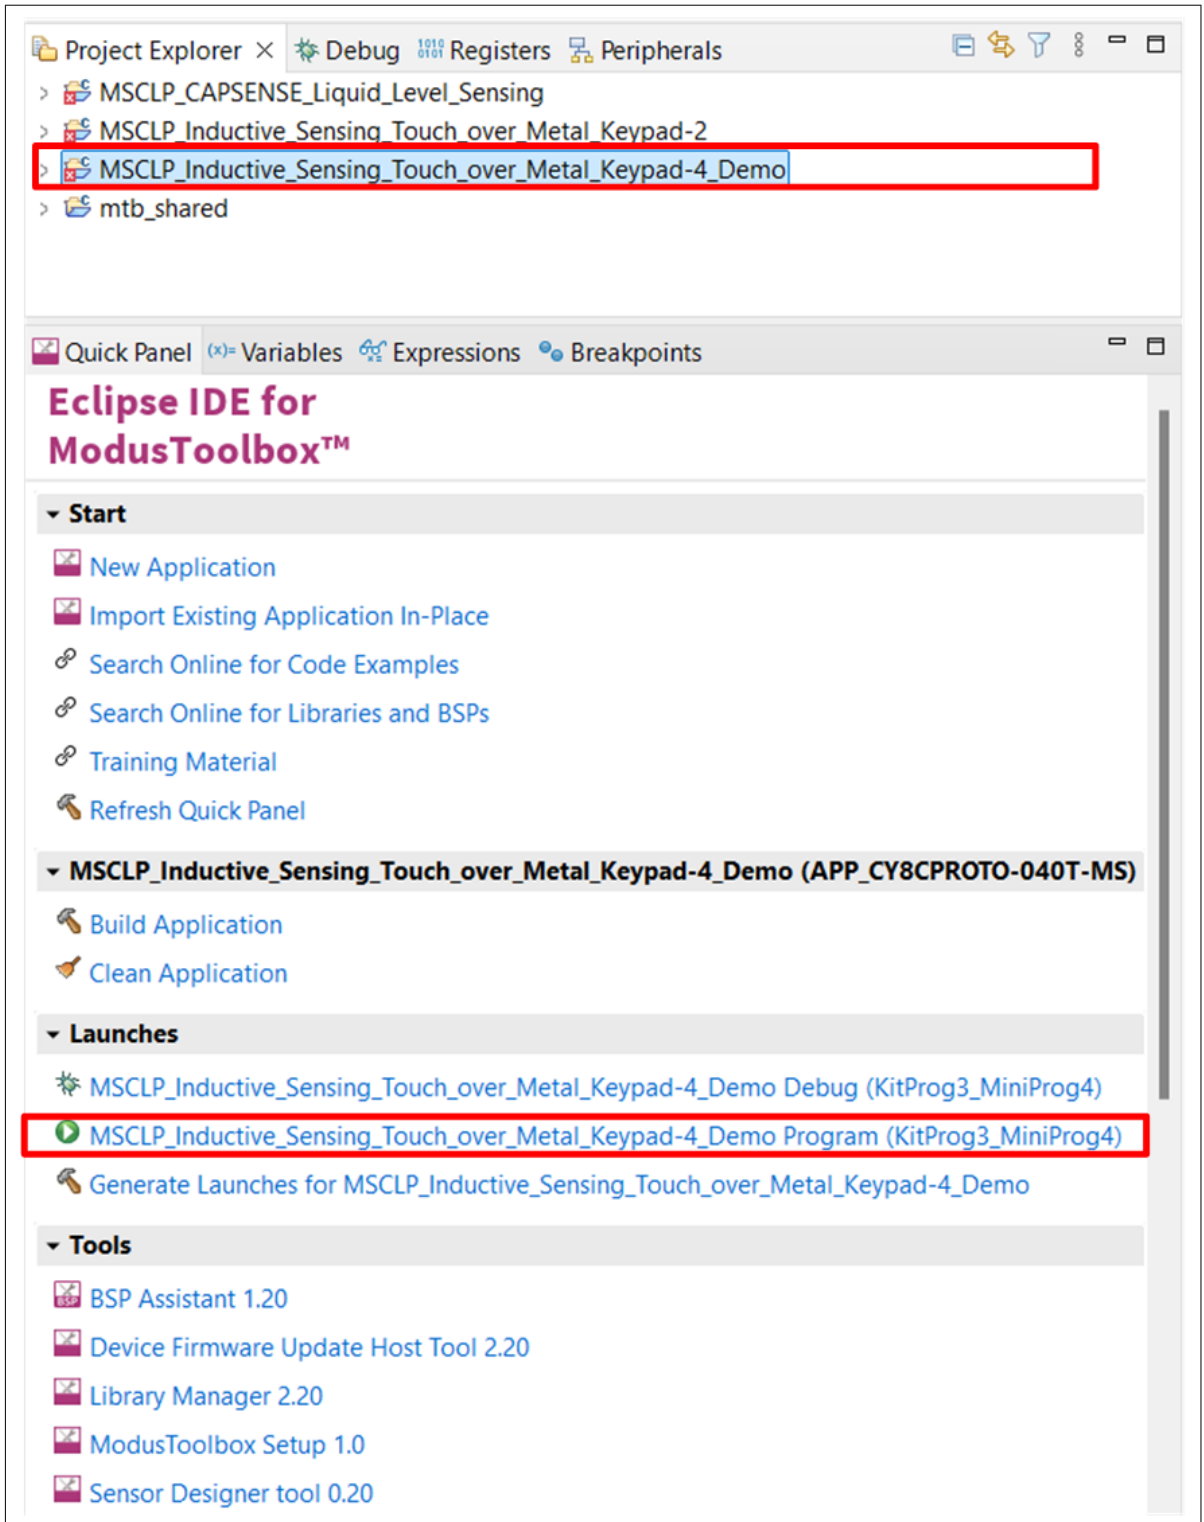

Figure 16 Building and programming the OOB code example
- b. In the **Quick Panel** tab, scroll to the **Launches** section, and click the **<App_Name> Program (KitProg3_MiniProg4)** configuration, as shown in Figure 16